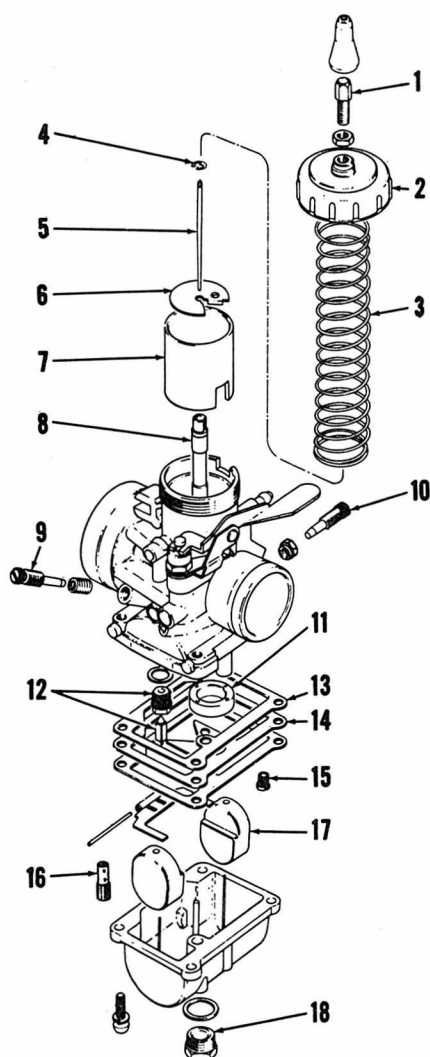

Fig. S13-3—Exploded view of carburetor used on TM 400R.
**CARBURETOR.** A Mikuni VM34SC is used on TM 400R models. Initial setting of pilot air screw (9—Fig. S13-3) is  $1\frac{1}{2}$  turns out from a lightly seated position. The following standard specifications are used (See Fig. S13-3).